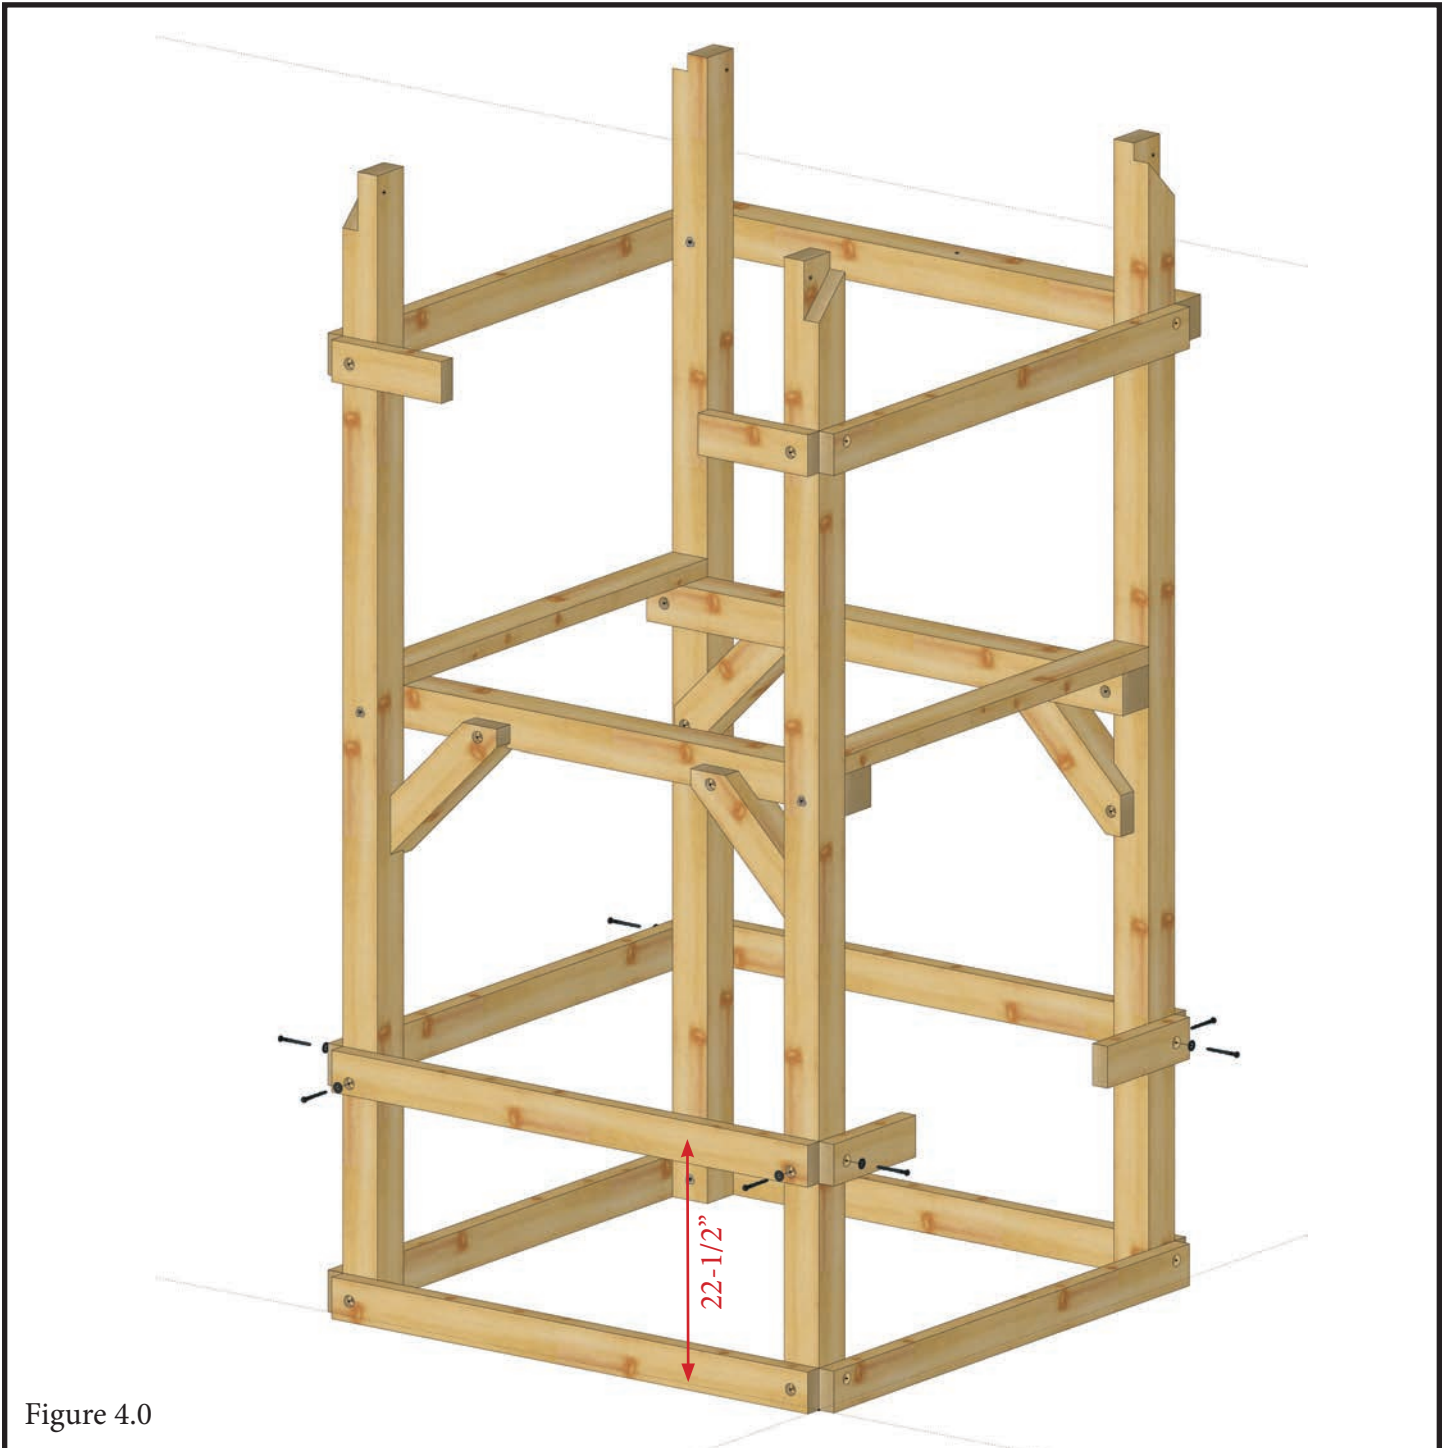

Figure 4.0
4.2 Fasten Top Panel Offset 48" (3) to Corner Post with 5/16 x 3 Lag Bolts with 5/16 washer as shown in Figure 4.0. Be sure to flip the orientation as you go to avoid the lags colliding in each corner post.
4.3 Fasten Top Support 12" to Corner Post with 5/16 x 3 Lag Bolts with 5/16 washer as shown in Figure 4.0.